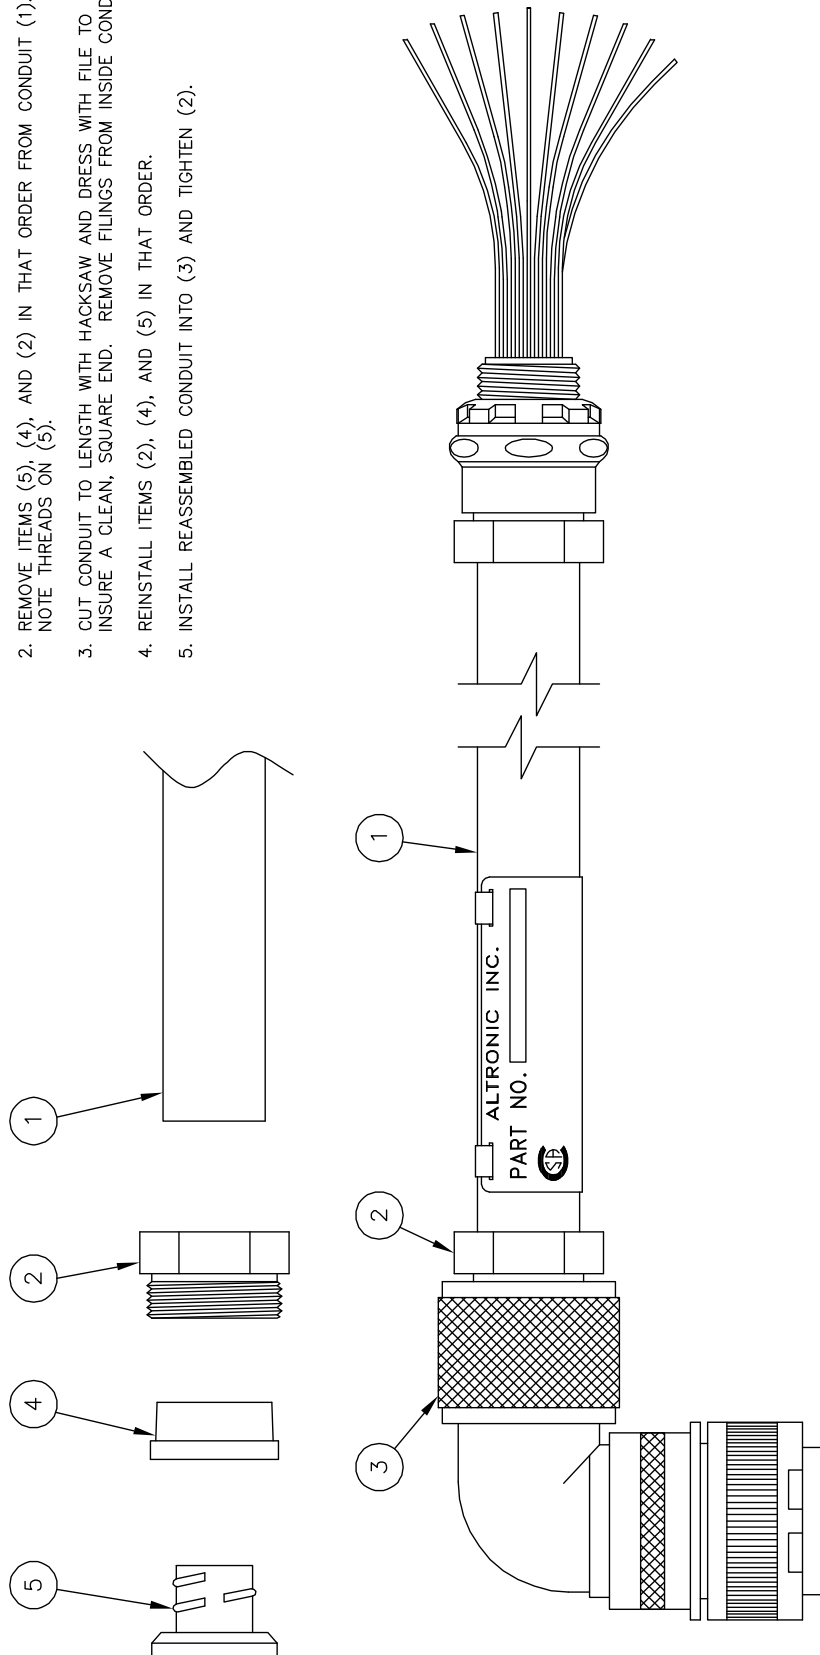

FIG. 2 PICKUP MOUNTING DETAIL
- FIG. 2 PICKUP MOUNTING DETAIL**